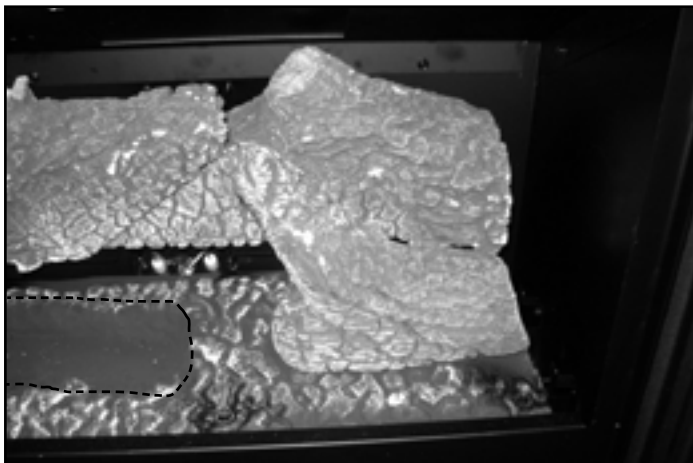

Figure 3. Placement of Log #2
**Log #2 (2342-702):** Place Log #2 into void on right side of burner. Slide log to the left until it contacts the burner topography. See Figure 3.